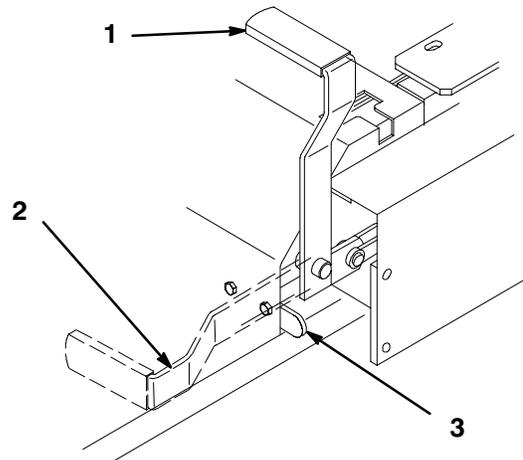

Figure 2
2. Pull back and up on the parking brake lever to set the parking brake (Fig. 2). The parking brake lever should stay firmly in the “ENGAGED” position.
1. Push forward and down on the parking brake lever to release the parking brake (Fig. 2). The parking brake is “DISENGAGED” and the lever rests against the brake stop.